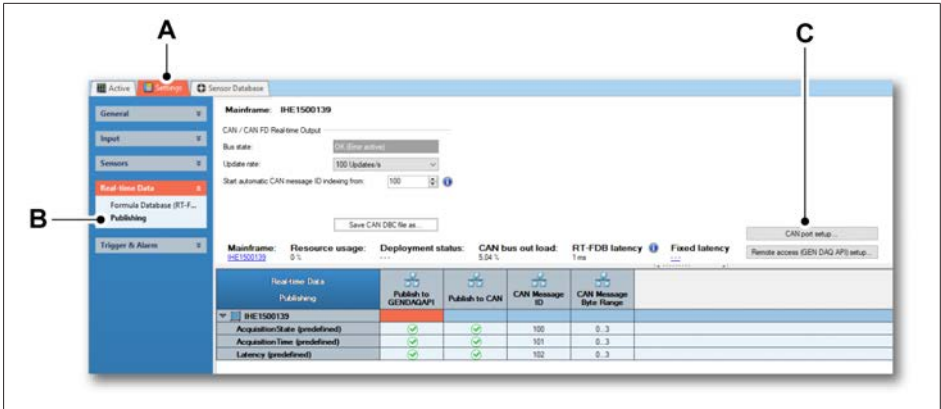

Fig. 12.24 CAN bus settings
- The correct **CAN bus settings** have to be used. To edit the CAN bus settings and set up the required settings open the **Real-time Data** panel and edit the **Publishing** values as shown in Fig. 12.24.